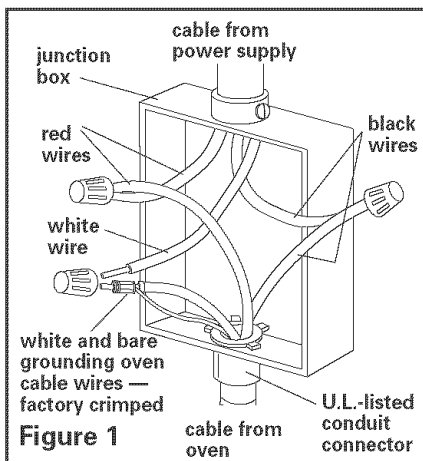

Figure 1
7. Connect the factory-crimped bare and white oven cable wires to the neutral (white) wire in junction box. See Figure 1.